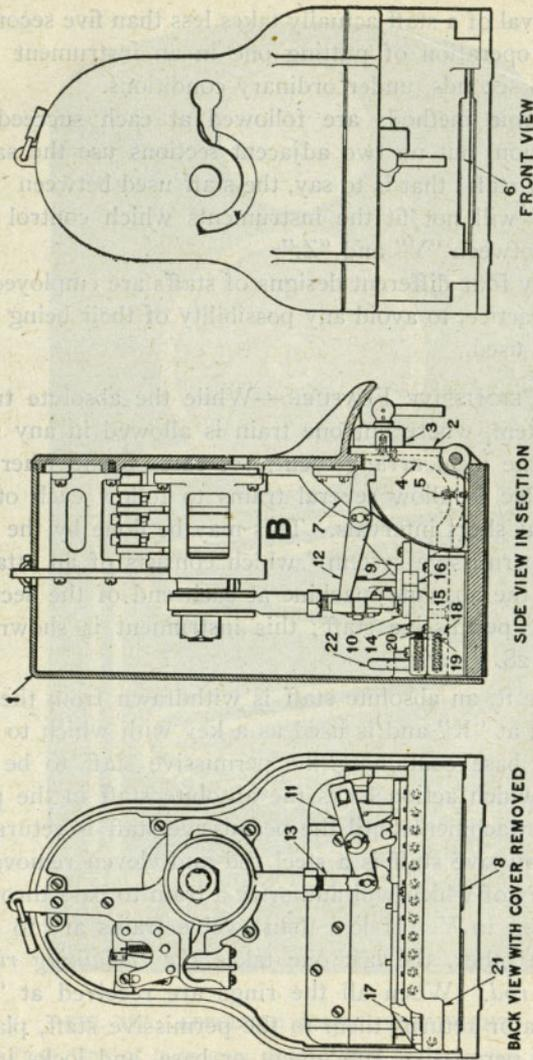

FIG. 128. PERMISSIVE ATTACHMENT.
**THE PERMISSIVE FEATURE.**—While the absolute train staff system, where but one train is allowed in any section, is the ideal arrangement, yet cases occur where it is desirable to allow several trains to follow each other a block at short intervals. This may be done by the use of the "permissive system," which consists of an attachment to the absolute machine at each end of the section with *one* permissive staff; this instrument is shown in Figure 128.